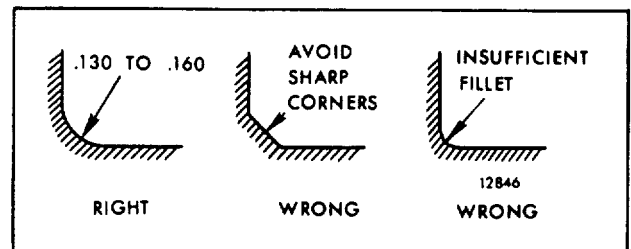

Fig. 7. Crankshaft Journal Fillets.
3. All journal fillets must have a .130 " to .160 " radius between the crank cheek and the journal and must not have any sharp grind marks (Fig. 7). The fillet must blend smoothly into the journal and the crank cheek and must be free of scratches. The radius may be checked with a fillet gage.